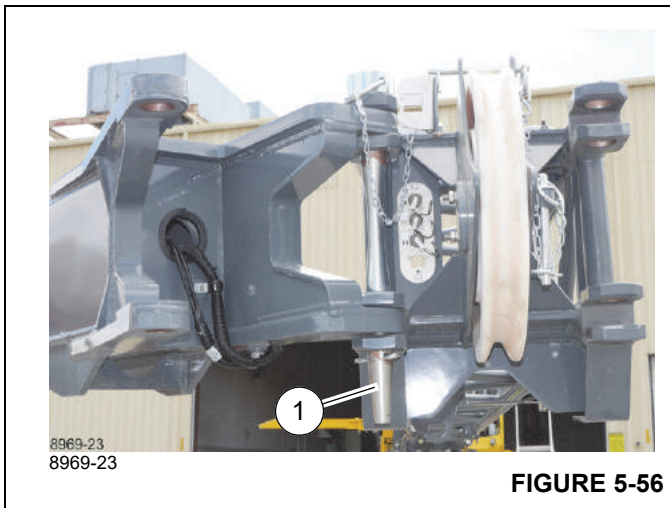

FIGURE 5-56
2. Make sure the attachment pin (1, Figure 5-56) and retaining clip are in place that connects the ends of the